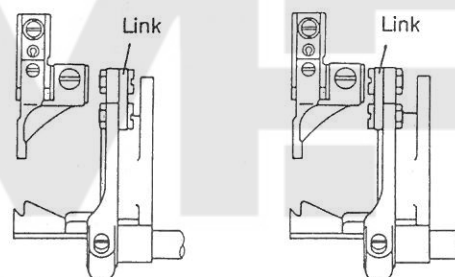

Fig. 6
- (1) Make connection as shown in Fig. 6. At this time, use care for the position of link depends on the sewing machine model.